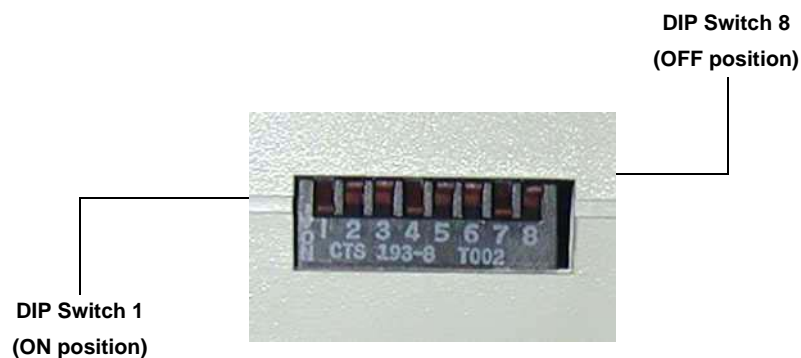

Figure 2-12 Jumper Settings for Modem
1. Before connecting the modem, verify that the jumper settings are correctly set, as shown in Figure 2-12. The jumper settings are: 1, 4, and 7 ON (down position), and 2, 3, 5, 6, and 8 OFF (up position).